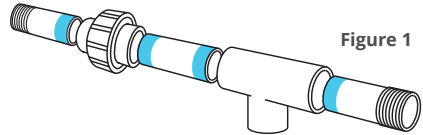

Figure 1
- Using PVC primer and glue, assemble the piping as shown to the right (Figure 1), applying primer and glue. Ensure enough glue cure time before running water through the system.